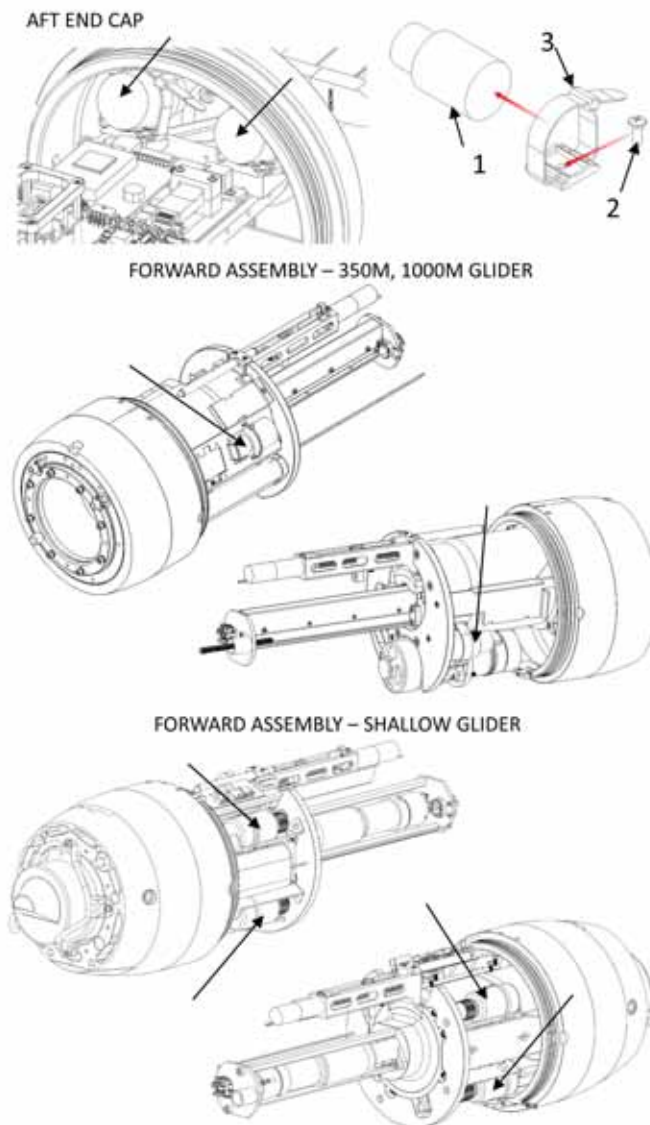

Figure 2-5 Forward and aft ballast bottles.
1. Loosen the ballast bottle bracket (Figure 2-5, Item 3).
2. Remove the ballast bottle (Figure 2-5, Item 1).
3. As necessary, remove the screw (Figure 2-5, Item 2) that secures the ballast bottle bracket (Figure 2-5, Item 3).
1. As necessary, install the screw (Figure 2-5, Item 2) that secures the ballast bottle bracket (Figure 2-5, Item 3).
2. Install the ballast bottle (Figure 2-5, Item 1).
3. Tighten the ballast bottle bracket (Figure 2-5, Item 3).